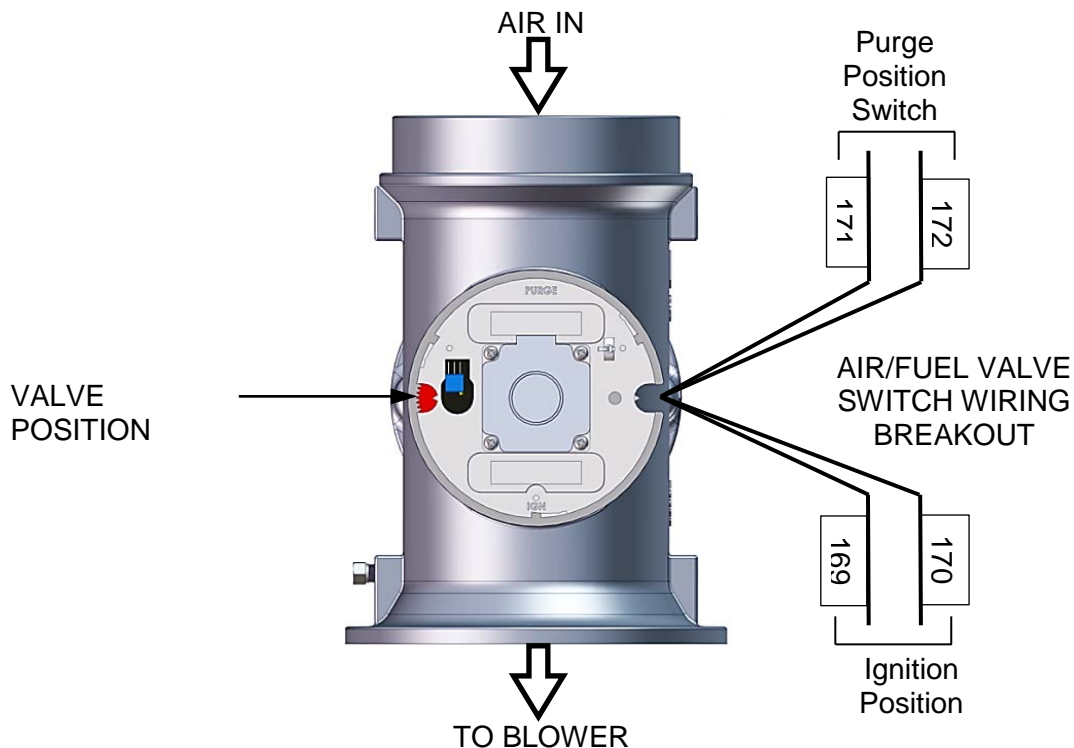

Figure 5-8. Air/Fuel Valve Purge and Ignition Switch Locations
3. Remove one of the two wires (#171 or #172) from the Purge Switch (Figure 5-8).
4. Remove one of the two wires (#169 or #170) from the Ignition Switch (Figure 5-8).